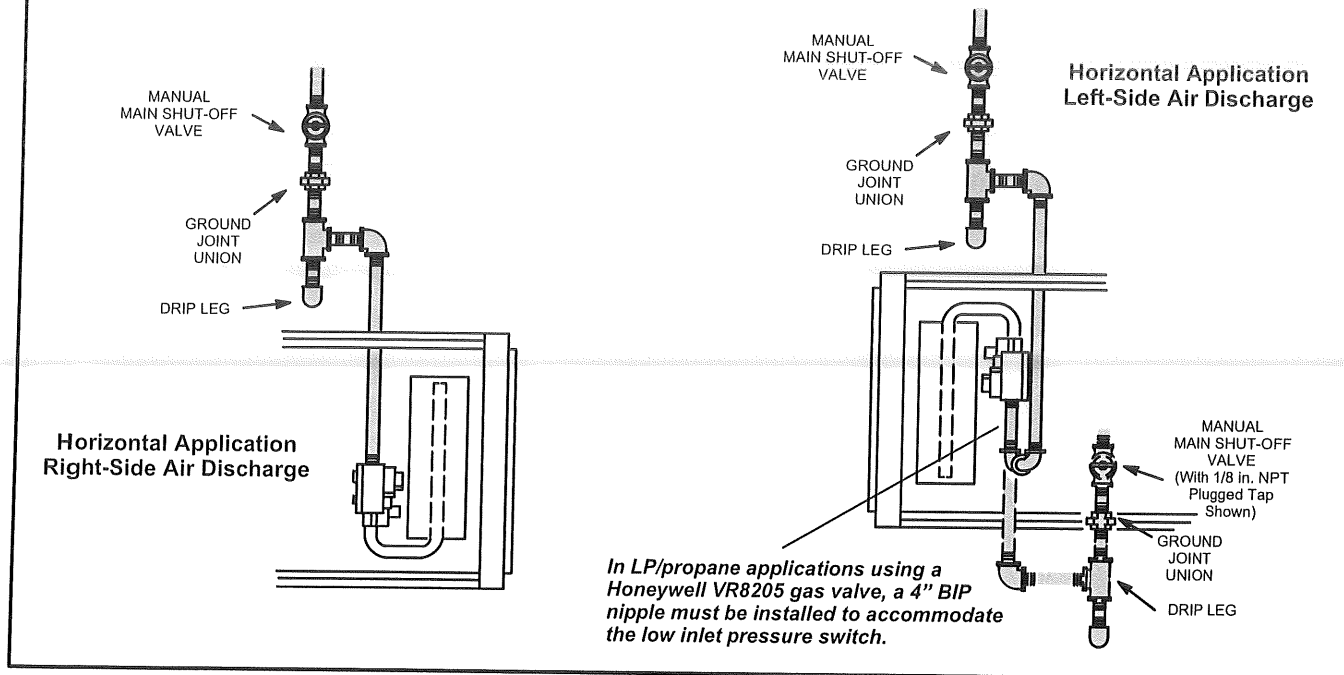

FIGURE 51
- 1 - Gas piping may be routed into the unit through either the left- or right-hand side. Supply piping enters into the gas valve from the side of the valve as shown in figure 51 or 51.
- 3 - Gas piping must not run in or through air ducts, clothes chutes, chimneys or gas vents, dumb waiters or elevator shafts. Center gas line through piping hole. Gas line should not touch side of unit. See figure 51 or 51.